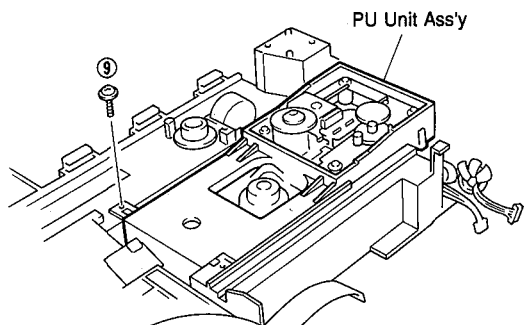

Fig. 4
- Remove 1 screw (⑨) and then remove the PU Unit Ass'y as shown Fig. 4.